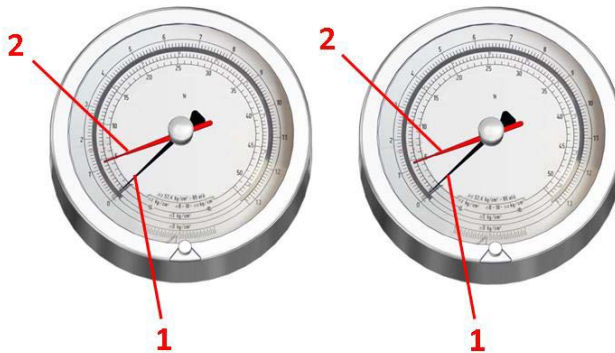

Figure 5.6.1
2. Manually set the red Pressure Indicator Follower (Item 2, Figure 5.6.1) on the pressure gauge to zero.